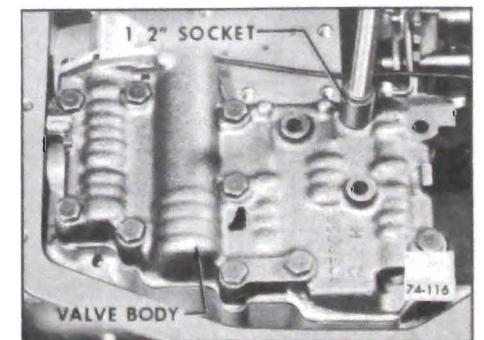

Figure 74-110
5. Remove eleven (11) valve body to case bolts. Do not remove valve body. See Figure 74-110.